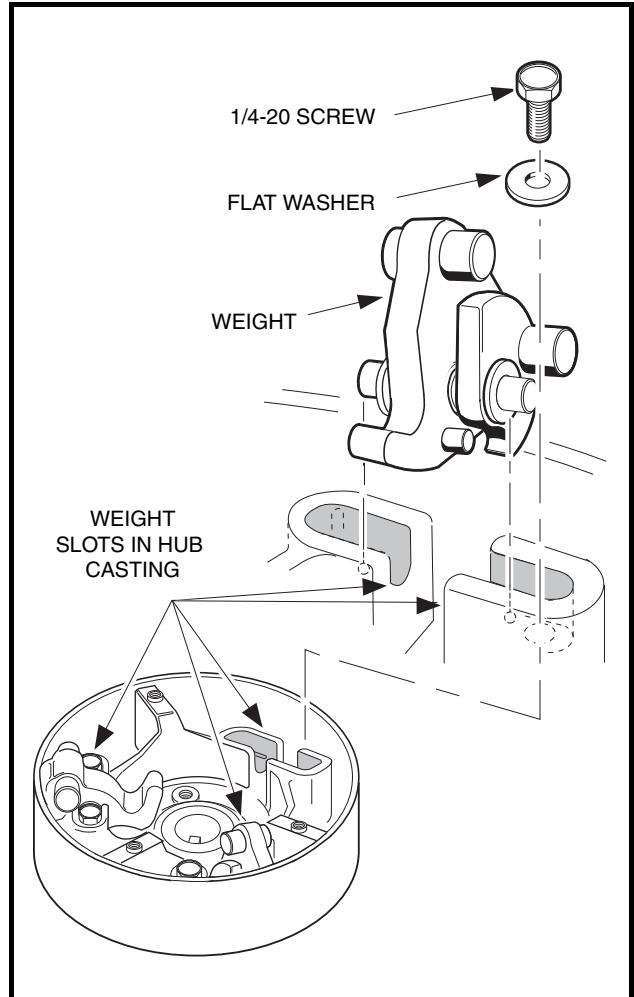

Figure 17-9 Weight Position
- 5.1. Remove the screws and flat washers attaching the weights (**Figure 17-9, Page 17-9**).
11. Install the weight assemblies into the slots in the hub casting (**Figure 17-9, Page 17-9**). Make sure the mounting pin protrudes an equal amount on each side of the weights when the assemblies are in position (**Figure 17-14, Page 17-11**).
15. Install a no. 10-24 button retaining screw with flat washer through each button and into the rib. Tighten the screws to 34 in-lb (3.8 N·m) (**Figure 17-9, Page 17-9**).